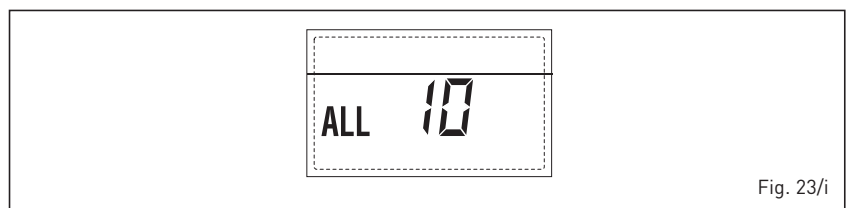

Fig. 23/i
– **ACTIVATION OF THE EXHAUST FUMES PROBE “ALL 13” (fig. 23/j)**